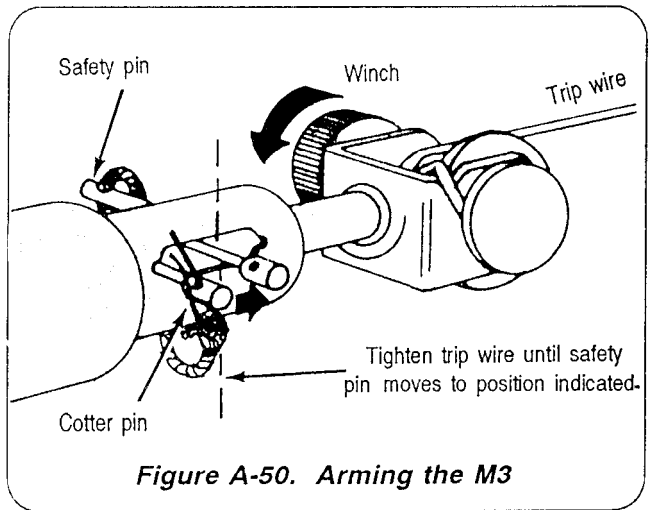

Figure A-50. Arming the M3
8. Use the knurled knob to draw the trip wire taut until the locking pin is pulled into the wide portion of the safety-pin hole (Figure A-50).